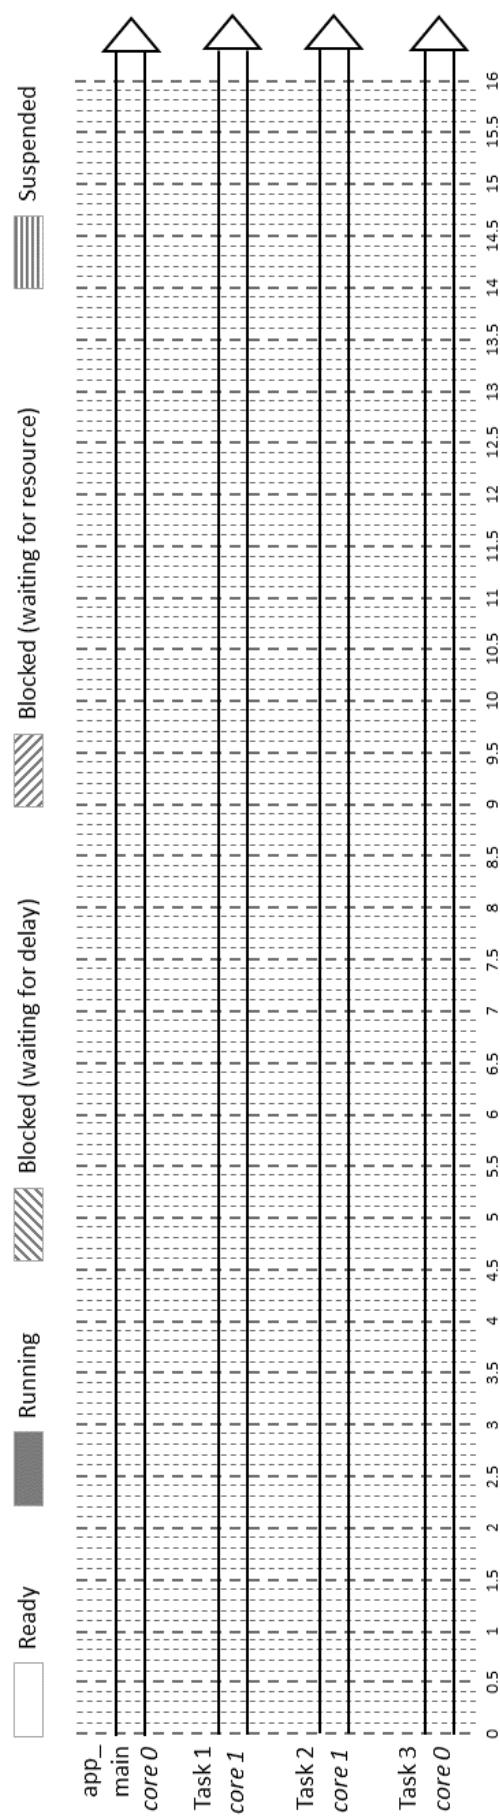

FIGURE 1.5 – Scheduling on 2 cores with 4 tasks.
2. Trace in the figure 1.5 the behavior of the tasks until 160 ticks.